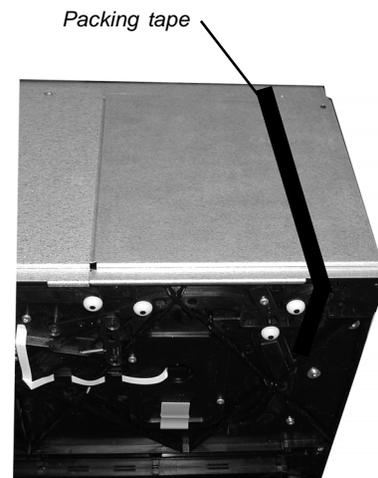

Figure 2. BCU Cover secured with packing tape.
4. Remove the strip of packing tape that secures the BCU cover, shown in Figure 2. Close the top lid and apply tape across the lid to hold it in place during shipping.